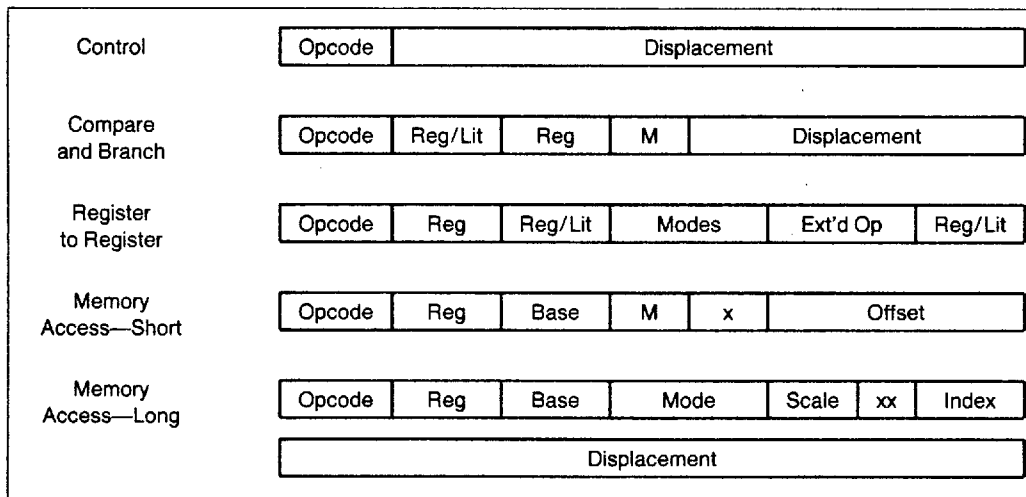

Figure 4. Instruction Formats
4. Simple Instruction Formats. All instructions in the 80960XA are 32-bits long and must be aligned on word boundaries. This alignment makes it possible to eliminate the instruction-alignment stage in the pipeline. To simplify the instruction decoder further, there are only five instruction formats and each instruction uses only one format. (See Figure 4.)